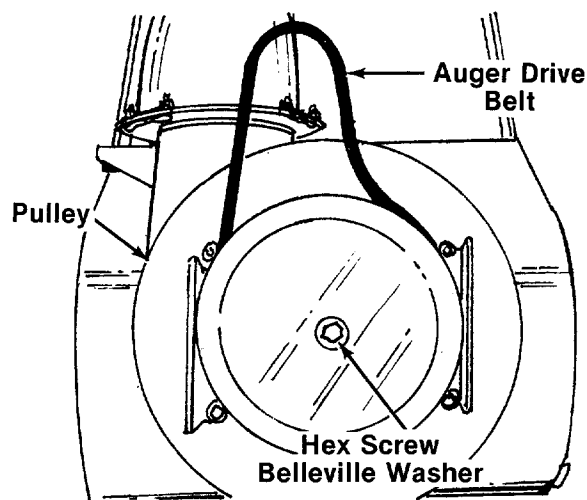

FIGURE 31.
- a. Remove the hex screw and belleville washer from the center of the pulley on the auger housing. Remove the pulley. See figure 31. Be careful not to lose the key.